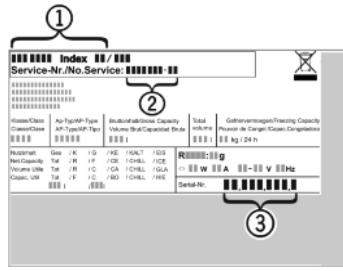

Fig. 8
- ▶ Read the appliance designation *Fig. 8 (1)*, service No. *Fig. 8 (2)* and serial No. *Fig. 8 (3)* off the model plate located inside the appliance on the left-hand side.
- ▶ Notify the customer service, specifying the fault, appliance designation *Fig. 8 (1)*, service No. *Fig. 8 (2)* and serial No. *Fig. 8 (3)*.